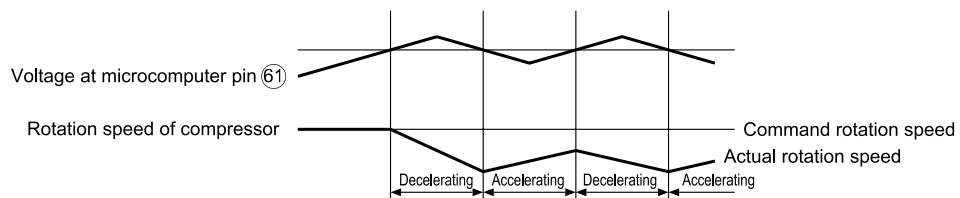

Fig. 6-6
Fig. 6-6 shows the rotation speed control. When the voltage at pin ⑥ of the microcomputer exceeds the set value, the microcomputer decreases the rotation speed of the compressor and reduces the load.